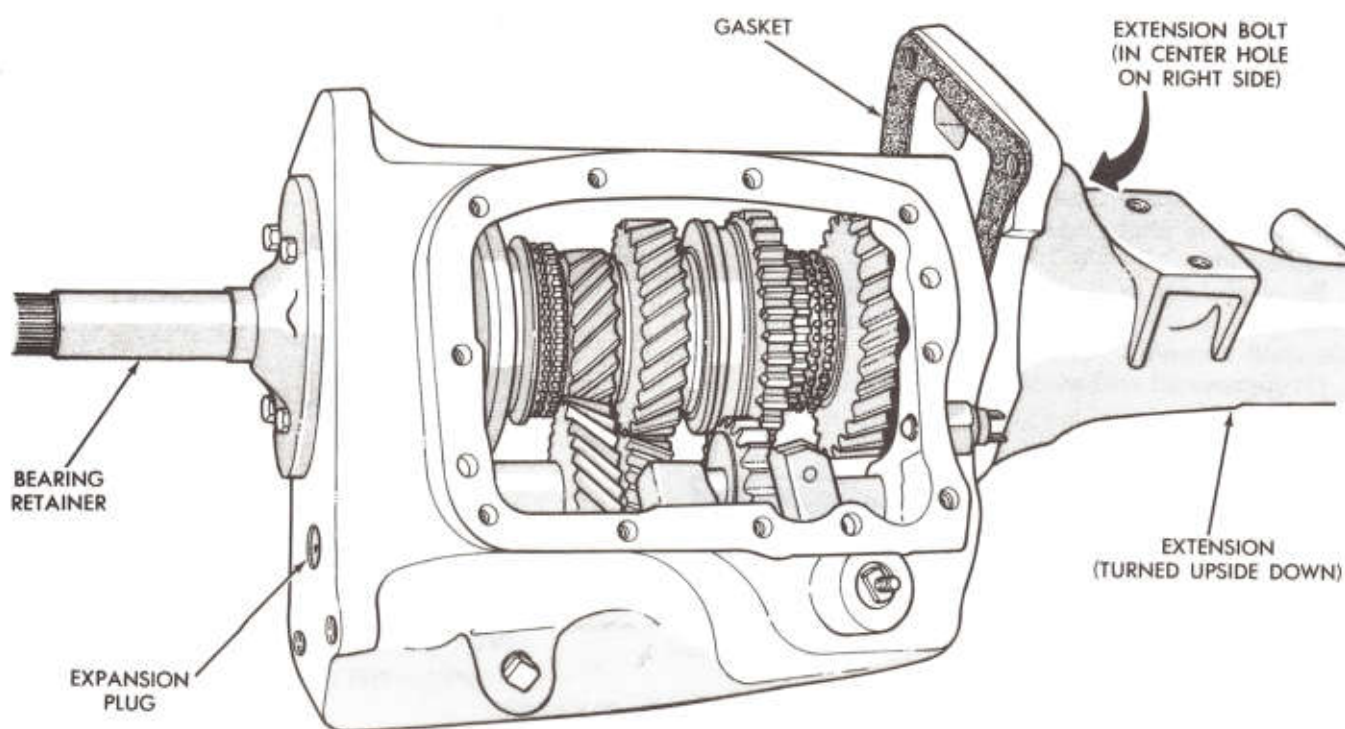

Fig. 12—Rotating Extension Housing
DISASSEMBLING TRANSMISSION (Fig. 12)
(2) Remove bolts that attach extension housing to transmission case.
(3) Rotate the extension on the output shaft to expose the rear of the countershaft. Clearance has been provided on extension flange to enable one bolt to be reinstalled to hold the extension in the upside down position with access to the countershaft (Fig. 12).
(4) With a centerpunch or drill, make a hole in the countershaft expansion plug at the front of the case.
(5) Reaching through this hole push the countershaft rearward until woodruff key is exposed. Remove key. Push countershaft forward against the expansion plug. Using a brass drift, tap the countershaft forward until expansion plug is driven out of case.
(6) Using the countershaft arbor Tool C-3938, push countershaft out of rear of case, using care to insure that the countershaft washers don't fall out of position. Lower countershaft gear to bottom of case.
(7) Rotate the extension back to normal position.